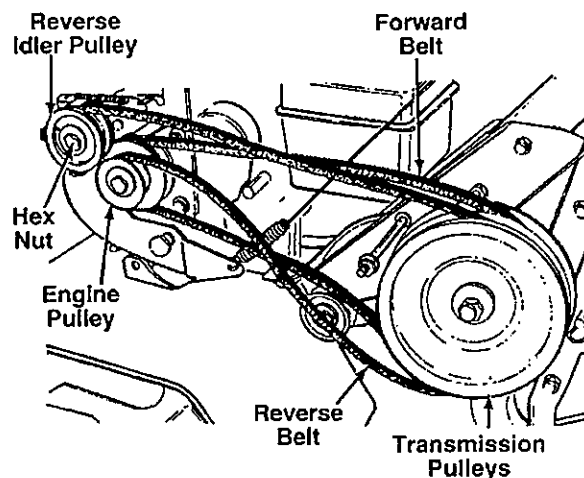

FIGURE 17-Model 390 Only
3. Lift the belt off the transmission pulley and engine pulley. See figure 17.
4. Remove the hex nut which secures the reverse idler pulley to the idler bracket. See figure 17. Slide idler pulley out and remove the belt.
FORWARD DRIVE BELT FOR MODEL 390 ONLY (Refer to Figure 17)